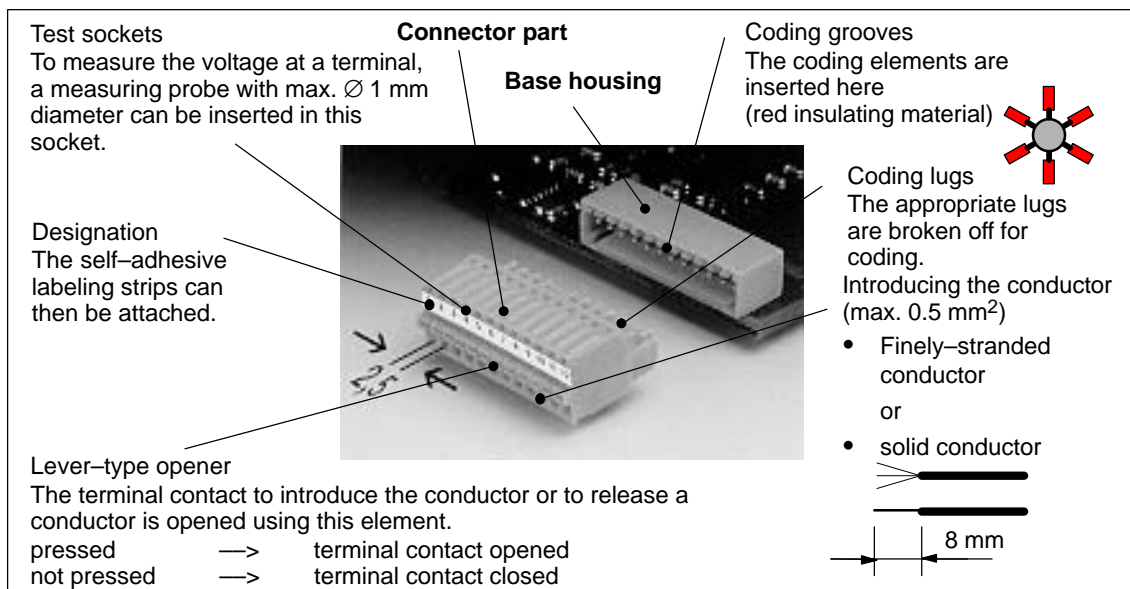

Fig. 2-4 Compact connector (Mini connector)
- Introducing conductors (refer to Fig.2-4):
- Coding (refer to Fig. 2-4):